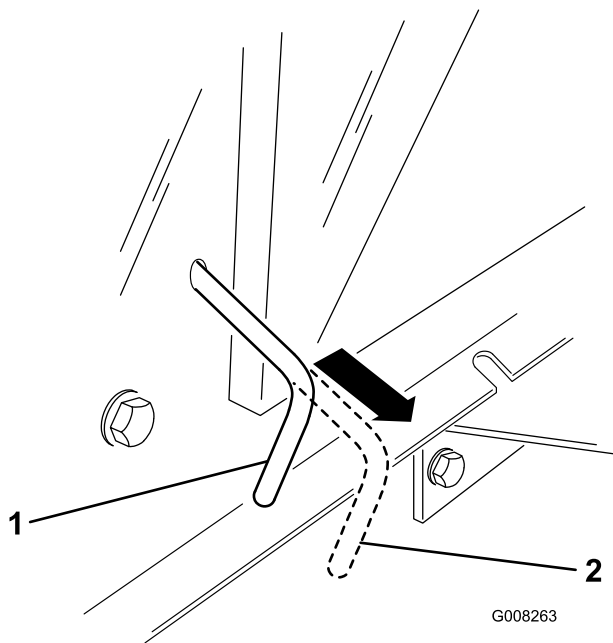

Figure 16
Note: This disengages the drive system and allows the wheels to turn freely (Figure 16).
2. Push the drive control in to the Operate position (Figure 16) to engage the drive system.